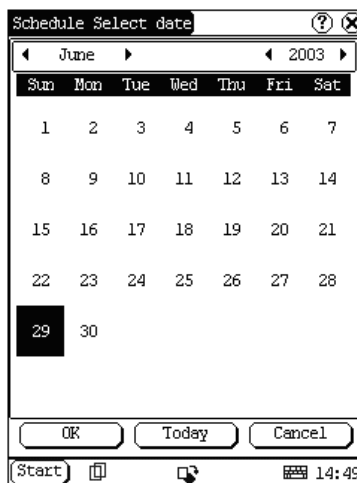

Fig 4-25
- 3) Click the [▶] icon to the right of the month or year to select the next month or year. (See Fig 4-25)